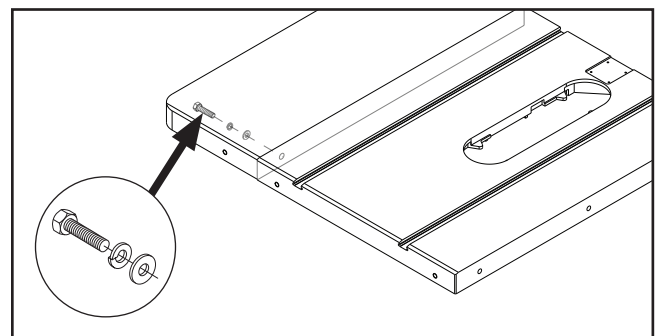

Figure 16. Securing front of extension wing.
4. Secure front of extension wing to main table with (1) $\frac{3}{8}$ "-16 x 1" hex bolt, $\frac{3}{8}$ " lock washer, and $\frac{3}{8}$ " flat washer (see **Figure 16**).